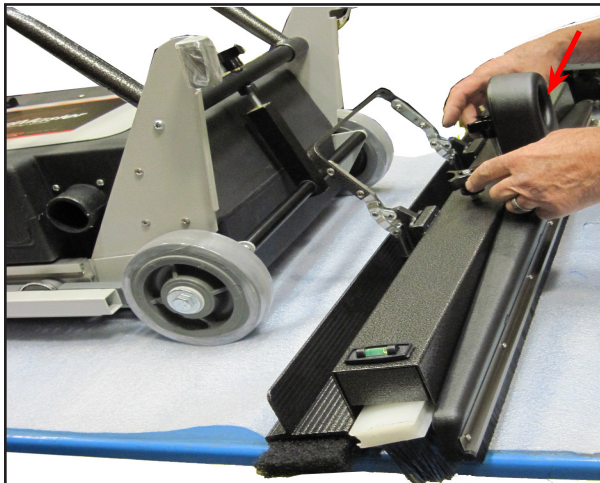
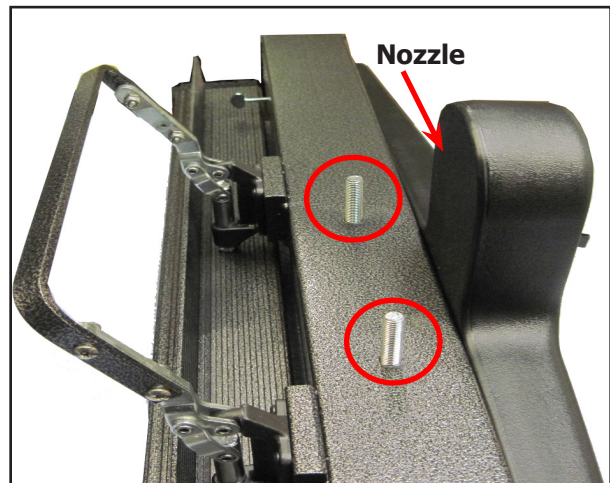

Figure 2. Position Assemblies Together, on Flat Surface
Figure 3. Fluted Knobs Removed from Head Assembly; Nozzle Facing Outward
1. Placing the head assembly and housing assembly on a flat surface (see Figure 2).
2. Unfastening the two fluted knobs on the head assembly (see Figure 2 and Figure 3).